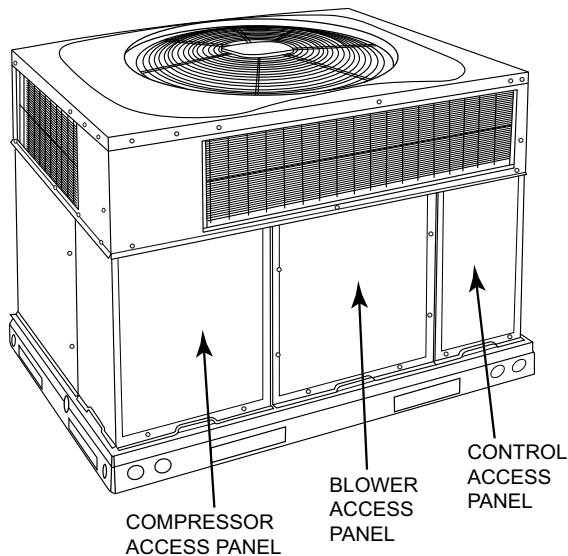

Fig. 28 – Unit Access Panels
- g. Reinstall blower access panel (see Fig. 28).
Remove access panels (see Fig. 28) to locate all the electrical controls and wiring. Before working with or handling any electrical components, make sure that all capacitors are properly discharged to avoid possibility of sparking. Replace components only with parts specified by the manufacturer. Other parts may result in the ignition of refrigerant in the atmosphere from a leak. Check all electrical connections for tightness. Tighten all screw connections. If any discolored or burned connections are noticed, disassemble the connection, clean all the parts, restrip the wire end and reassemble the connection properly and securely.